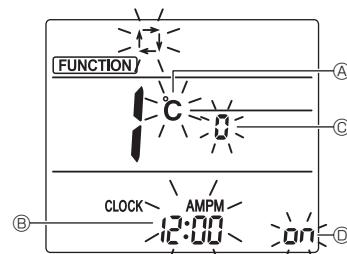

Fig. 6-7
- Press the Ⓛ button ④ to change the function No.
- 3.Check that function No. "1" is displayed, and then press the Ⓛ SET button ③. The display setting screen will be displayed. (Fig. 6-7)